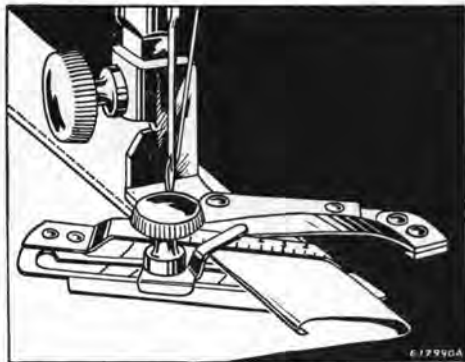

FIG. 42. SHOWING HOW ADJUSTABLE HEMMER IS USED FOR MAKING HEMS UP TO $15/16$ INCH WIDE
- (3) Loosen the thumb screw on the hemmer and move the scale until the pointer registers with the number of the desired width of hem, No. 1 indicating the narrowest hem and No. 8, the widest, then tighten the thumb screw.
- (4) Place the cloth in the hemmer and draw it back and forth until the hem is formed, as shown in **Fig. 42**.
- (5) Draw the end of the hem back under the needle, lower the presser bar and commence to sew.
- (6) Guide sufficient cloth into the hemmer to turn the hem properly.